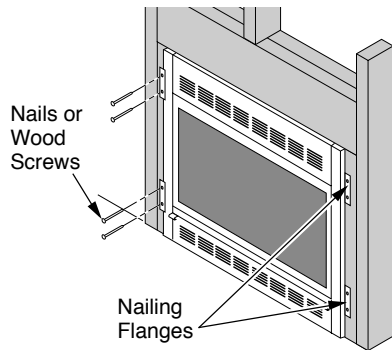

Figure 36 - Attaching Fireplace to Wall Studs (EFP33PR Shown)
- Attach fireplace to wall studs using nails or wood screws through holes in nailing flange (see Figure 36).